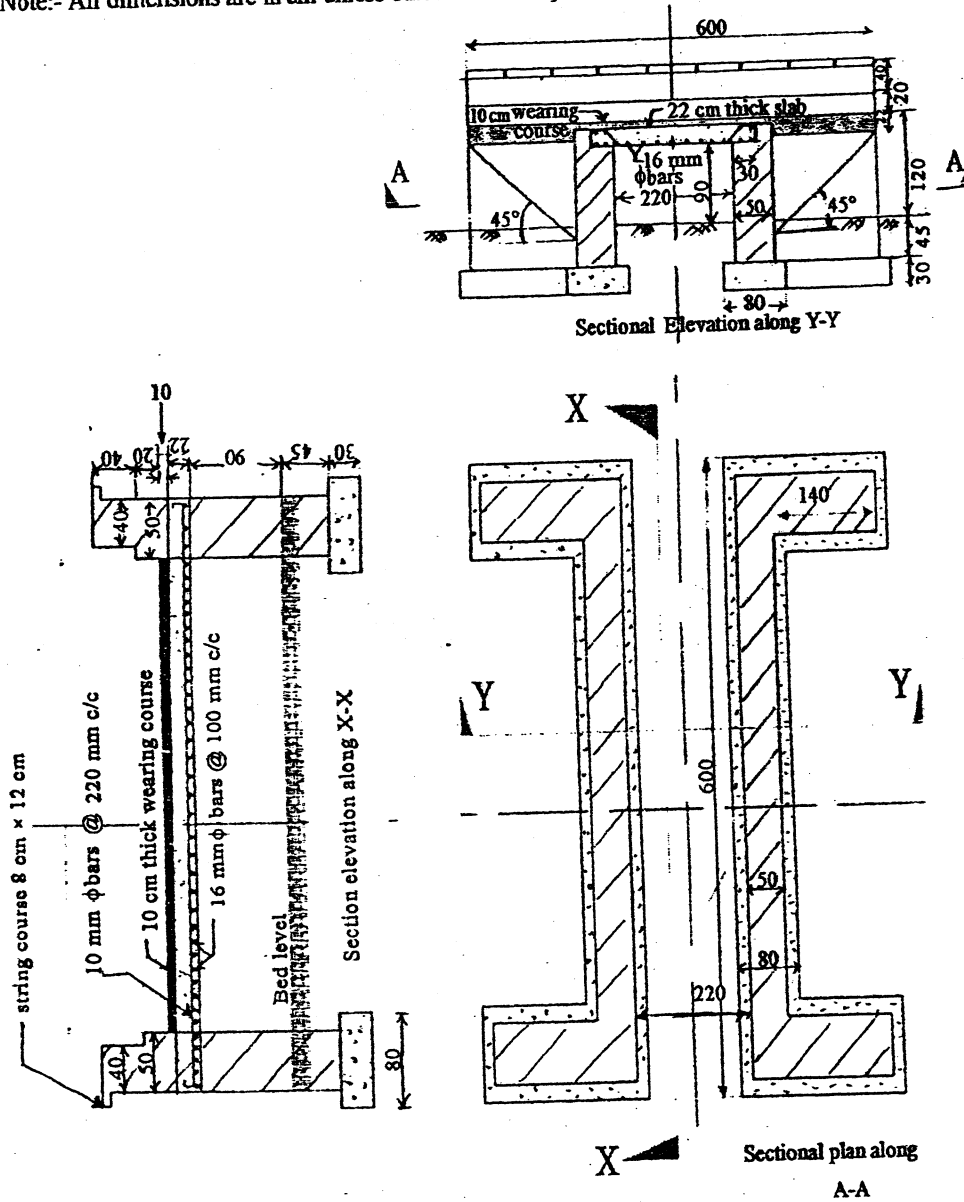

Figure 2
10. Find following item of works from attached drawing of slab culvert (Figure 2). [4×3